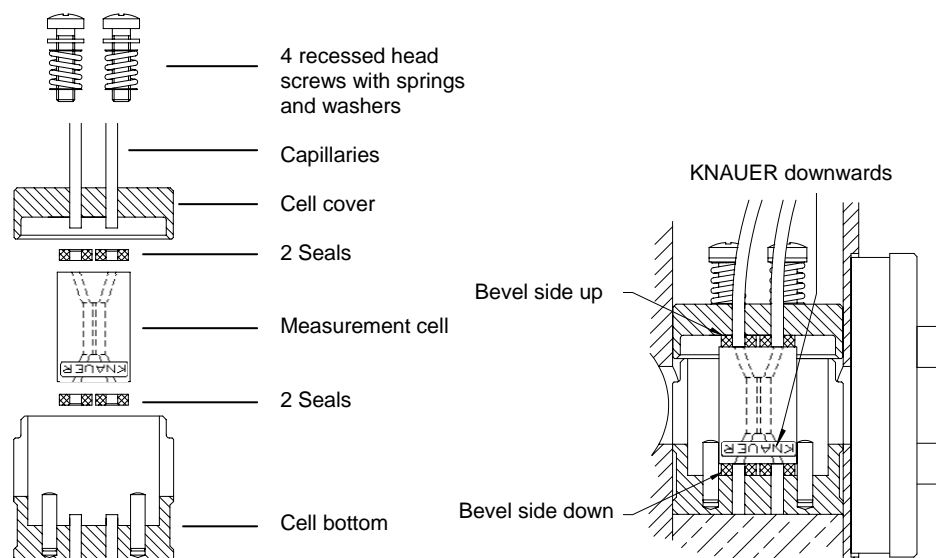

Fig. 13 Layout of 15° measurement cell (left); and orientation on the optical bench (right)
- Insert the measurement cell, considering its position (see Fig. 13) into the housing. The writing KNAUER has to be situated on the upper side.